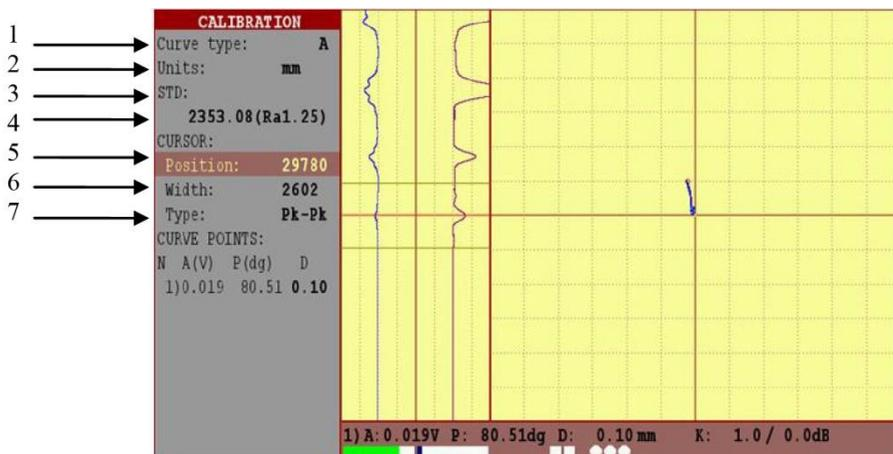

Fig. 30 – "Calibration" menu
Note. If calibration is carried out on any of the listed calibration blocks in pos. 4, Figure 30, then an operator can easily activate marker STD (pos.3, Fig. 30) and select an appropriate type of the calibration block before adding of the calibration curve points. Then add in order, starting with a minimum, all signals from defects of a given calibration block and the flaw detector will automatically assign the wanted depth to the defects.